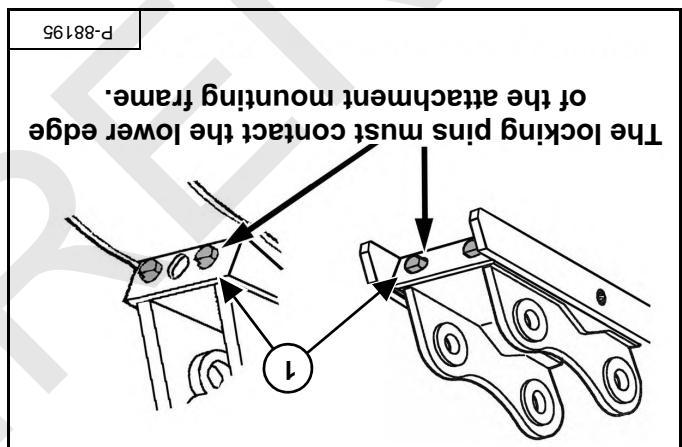

Figure 110
The locking pins (item 1) [Figure 110] must extend through the holes in the attachment mounting frame, securely fastening the attachment to the frame, through the holes in the attachment mounting frame, securely fastening the attachment to the frame.